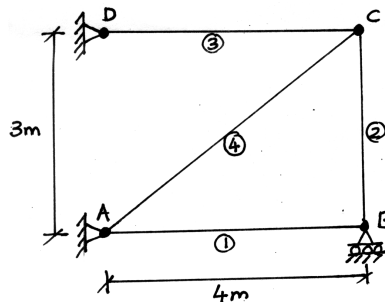

Fig 9(b)
b. Obtain structure stiffness matrix of the pin-jointed plane truss shown in Fig. 9(b) using direct stiffness method. Assume $A = 2000 \text{ mm}^2$ and $E = 200 \text{ GPa}$. For all members.